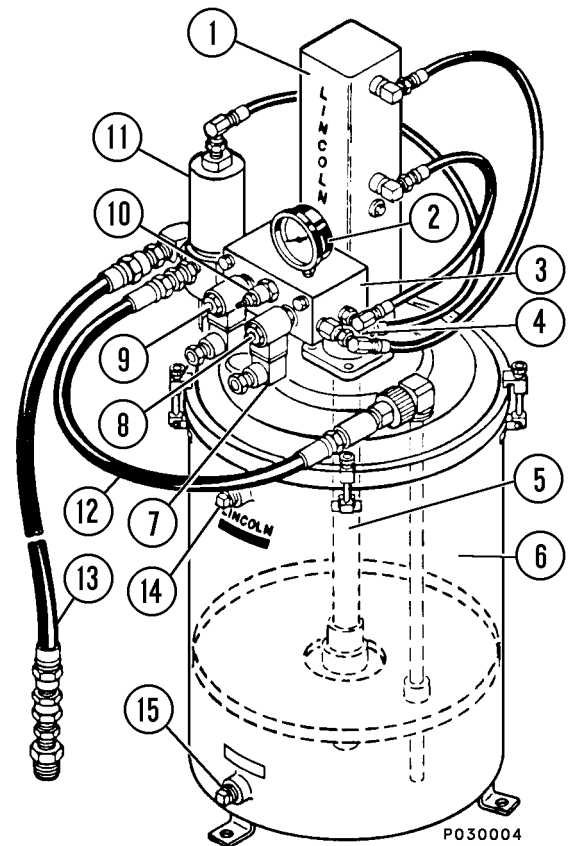

FIGURE 42-1. TYPICAL AUTO LUBE SYSTEM
Hydraulically Powered Reciprocating Cylinder and Pump (1 & 5, Figure 42-1)
(3, Figure 42-1) includes:
[Also called a "flasher" timer, because it contains an LED that illuminates when there is power going to SV2]: Pump cycle timer (7, Figure 42-1) mounts on SV2 solenoid and generates a timed pulse signal which causes the solenoid valve to move, alternately. The alternating movement of the valve, changes the direction of hydraulic fluid flow from the top of the pump cylinder to the bottom, and vice versa, causing the grease pump piston to reciprocate, or pump.
Grease reservoir (6, Figure 42-1) is mounted on the right deck structure to the right of the hydraulic cabinet just above the right front suspension. The reservoir has an approximate capacity of 29 l (7.7 gal) or 27 kg (60 lb) of grease.
When SV1 solenoid is energized, hydraulic pressure closes vent valve (11, Figure 42-1), and also causes the pump to cycle. The pump cycles until SV1 solenoid is de-energized. When this occurs, hydraulic pressure is removed, causing the vent valve to open. The grease pressure drops to 0, and the injectors recharge for their next output cycle.
Safety unloader relief valve (not shown) is located on the back of vent valve (11, Figure 42-1). The safety unloader is designed to open if the pressure in the grease line rises to approximately 27.5 MPa (4000 psi)*. If this valve opens, the grease is expelled to the atmosphere.
1. Turn keyswitch (3, Figure 42-7) OFF and shut down the engine to de-energize the system. Install a 35 MPa (5000 psi) pressure test gauge in grease supply line (13, Figure 42-1).